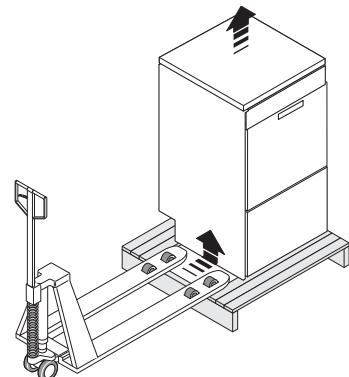

Figure 5 Machine positioning
- Lift the equipment with a lift truck, remove the base and position it in the place of use (Figure 5).